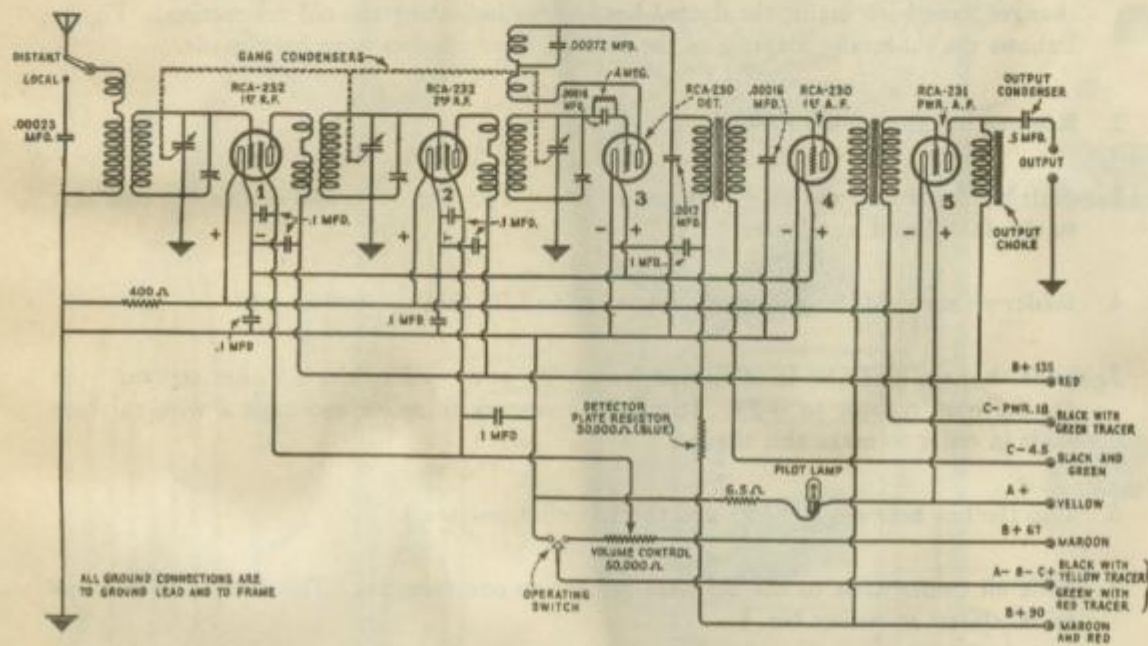

Figure 2
The various assemblies and parts of Radiolas 21 and 22 are readily accessible and replacements can be easily made. Figure 2 illustrates the receiver chassis and Figure 1 the rear interior cabinet view of Radiola 22. The following procedure gives the correct method for removing the various assemblies from their cabinets.
1. Remove receiver assembly from cabinet, place in a position convenient for work and turn upside down. Make the following changes. Figure 1 shows the wiring after the changes have been made, the dotted heavy lines indicating the old connections. Figure 2 shows the schematic diagram of the Radiola after changes have been made.